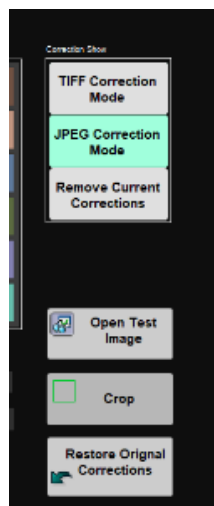

Figure 46. JPEG Correction selected
10. Now select JPEG Correction Mode (Figure 46).